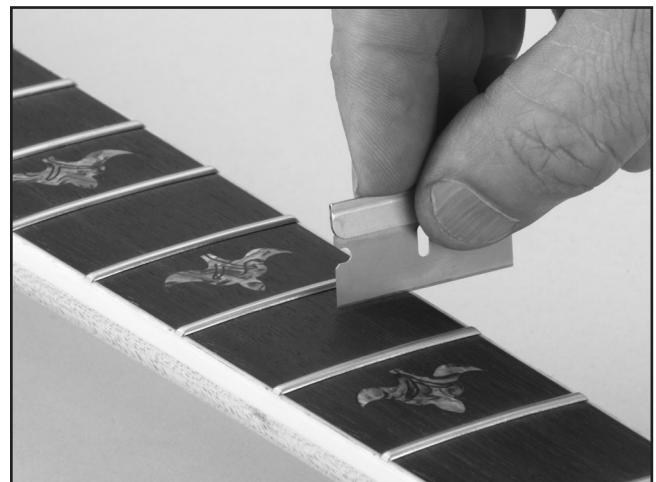

Figure 13. Scraping the fretboard.
6. Before wet sanding, remove the masking tape from the fretboard and carefully scrape any excess finish off the fretboard with a razor blade or chisel as shown in **Figure 13.**